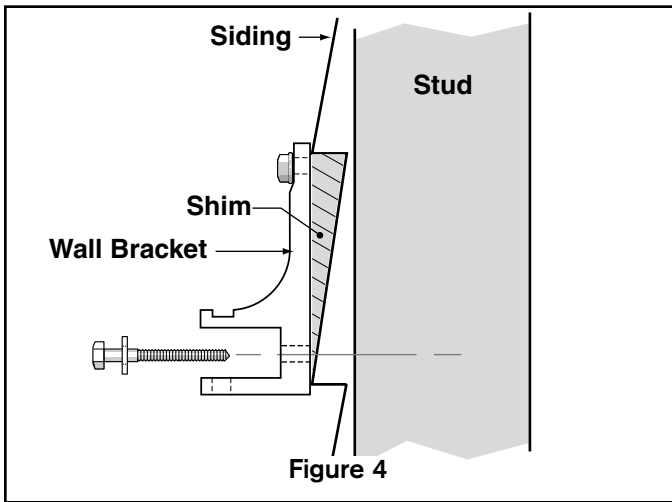

Figure 4
**Note:** For an attractive finished appearance, you can use wood spacers or shims underneath each bracket to make a flat surface - see figure 4. Shims are not supplied with your awning.